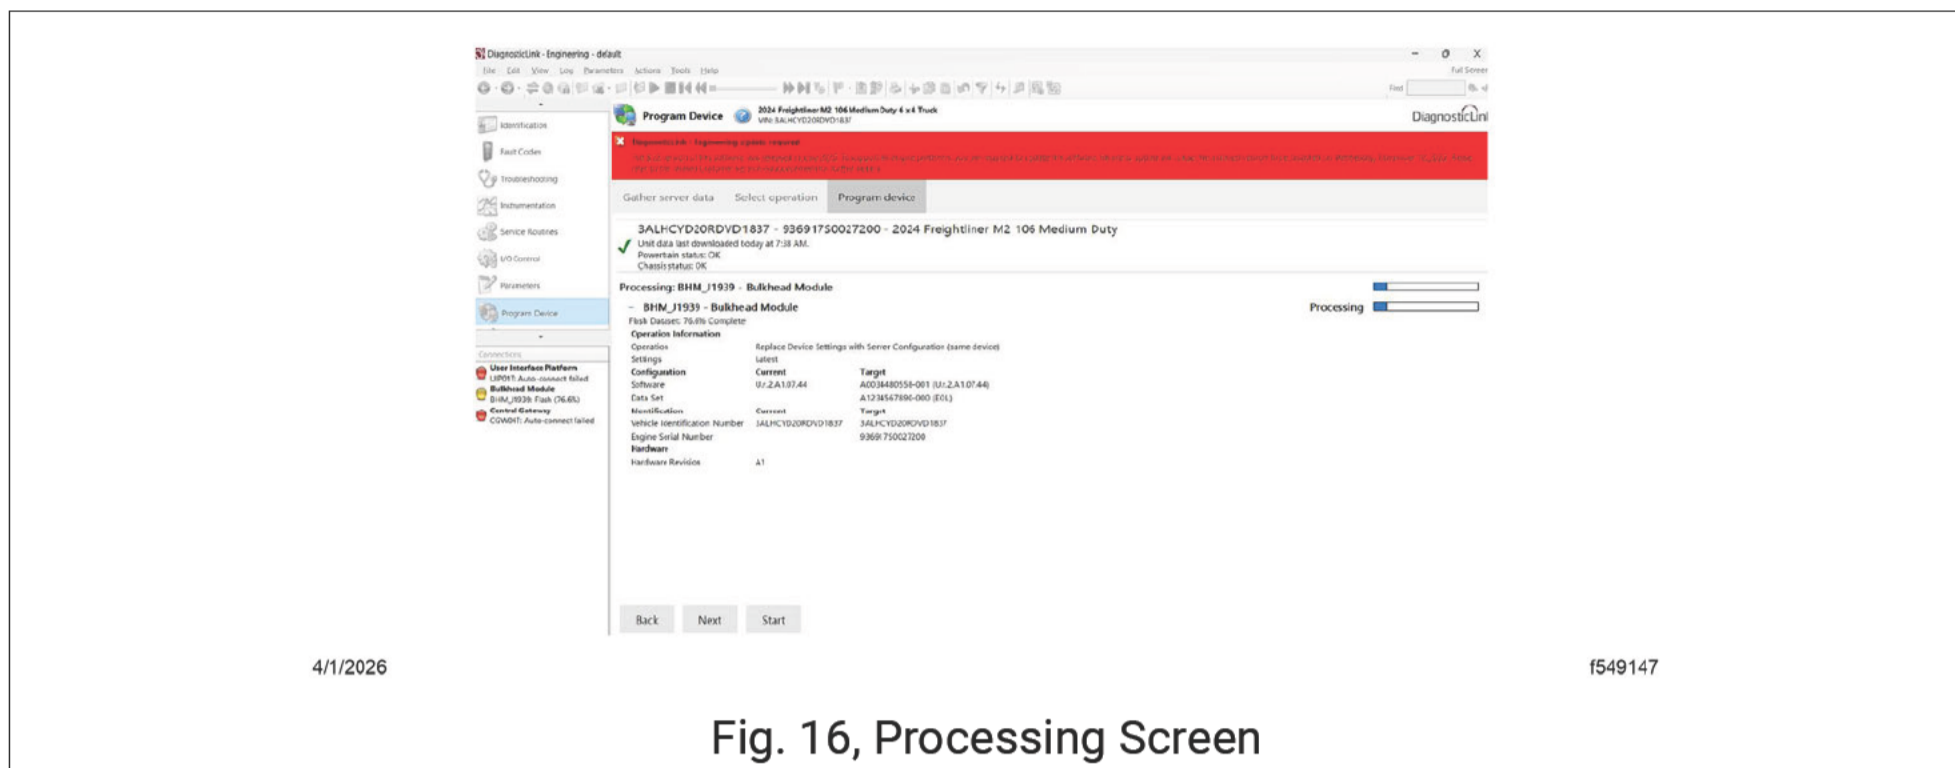

Fig. 16, Processing Screen
24. Allow the information to process. See Fig. 16.